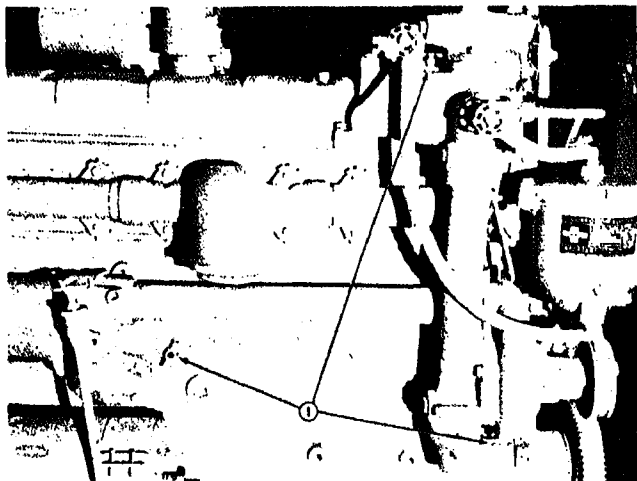

Fig. 0-1. Coolant vent and drain points
3. Open vent and drain cocks (1, Fig. 0-1), remove drain plugs and drain coolant from cylinder block, radiator, oil cooler and heat exchanger.
1. Location of engine serial number plate is shown in Fig. 0-1.